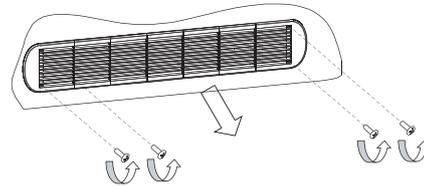

Fig. 5-10
- 2) Loosen the hanger of the putdown side refers to Fig. 5-10.